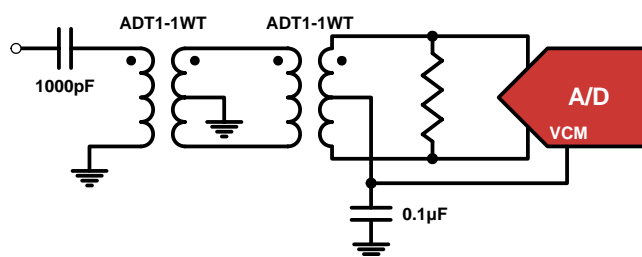

FIGURE 31. TRANSFORMER INPUT FOR GENERAL PURPOSE APPLICATIONS
Best performance is obtained when the analog inputs are driven differentially. The common-mode output voltage, VCM, should be used to properly bias the inputs as shown in Figures 31 through 33. An RF transformer will give the best noise and distortion performance for wideband and/or high intermediate frequency (IF) inputs. Two different transformer input schemes are shown in Figures 31 and 32.